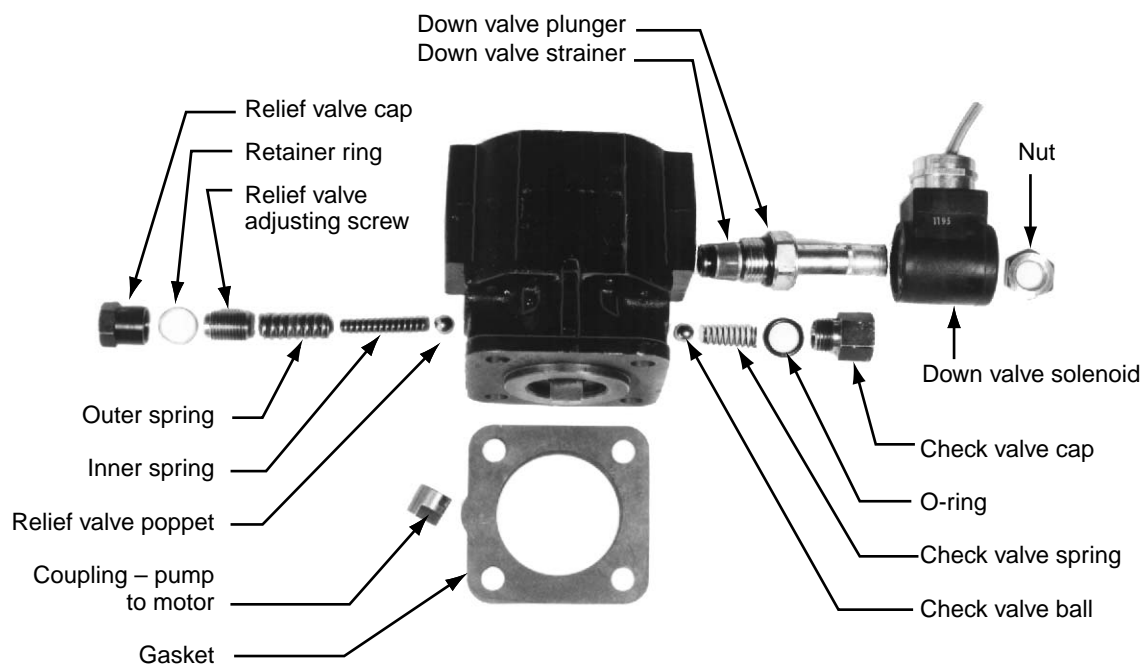

Fig. 8 Pump
- Lower the platform and disassemble the down valve as shown in Fig. 8. Blow the valve plunger clean with compressed air. Reassemble the valve and reinstall it.
10. If the pump has been changed, the coupling may not have been installed between the motor and pump. See the pump assembly in Fig. 8.
1. The check valve may be leaking. Dirt on the valve seat can prevent the valve from closing fully. The check valve is mounted in the base of the pump housing, as shown in Fig. 8. Remove the check valve cap and inspect the valve for dirt or metal chips which may be preventing it from closing. You may be able to restore the seal by lightly rapping the ball into the seat using a 1/4" diameter rod and a small hammer.